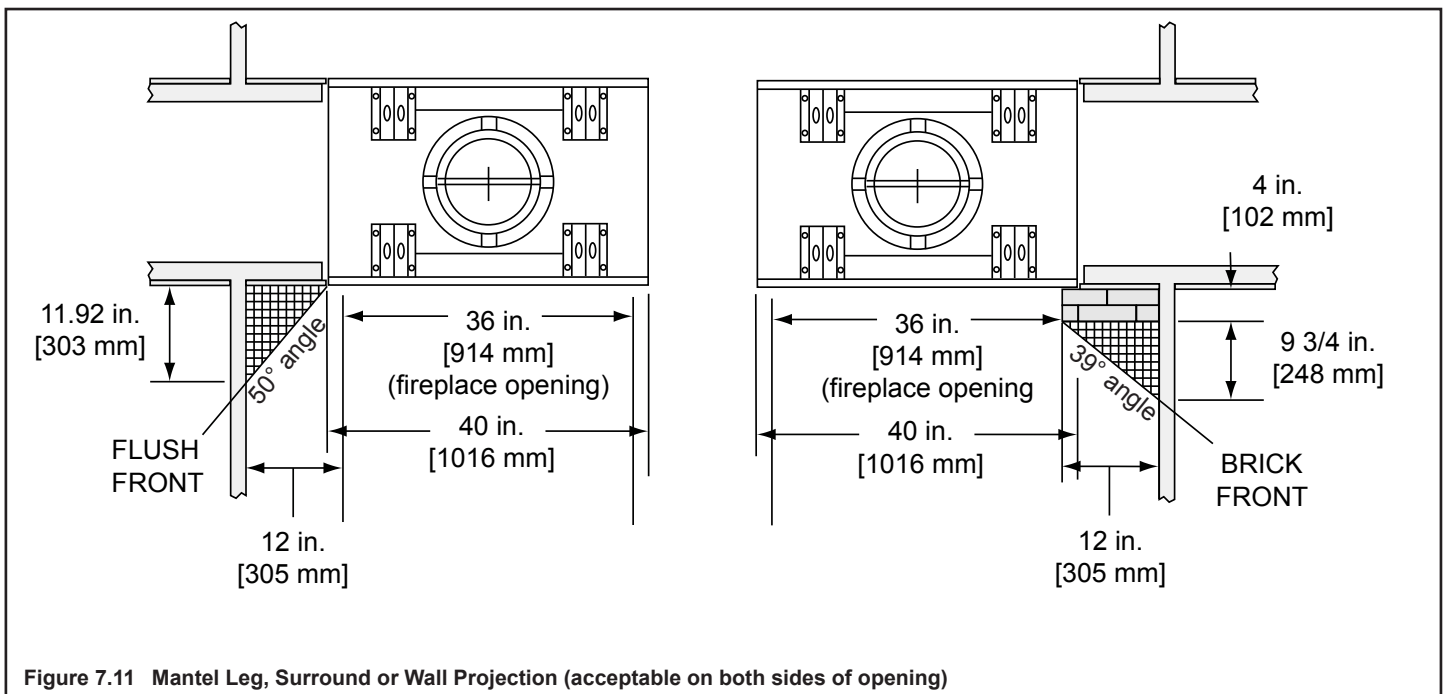

Figure 7.11 Mantel Leg, Surround or Wall Projection (acceptable on both sides of opening)
- Mantle leg, surround, stub wall, whether combustible or non-combustible, may be constructed as shown in Figure 7.11.